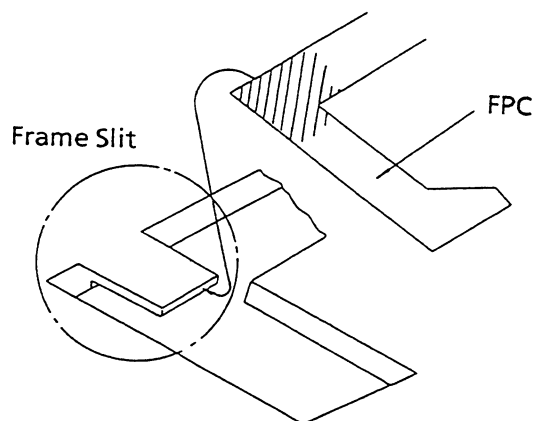

Figure 7-7 Inserting the FPC into the frame slit
- ③ Insert the corner of the FPC (indicated in Figure 7-7 by diagonal lines) underneath the frame slit.